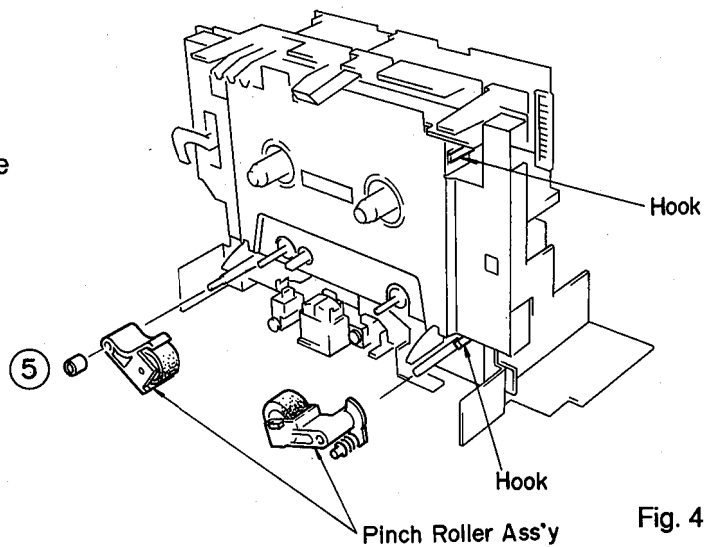

Fig. 4
- a. Remove the arm adjust screw (5) in fig. 4.